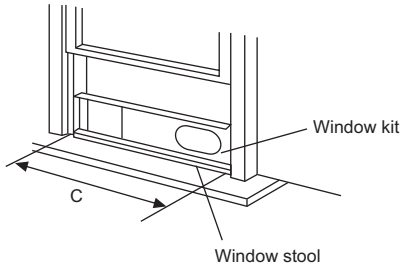

Fig.9
2. Adjust the length of the slider kit according to the width of the window. Place slider kit to window stool, on top of foam seal (Fig.9)